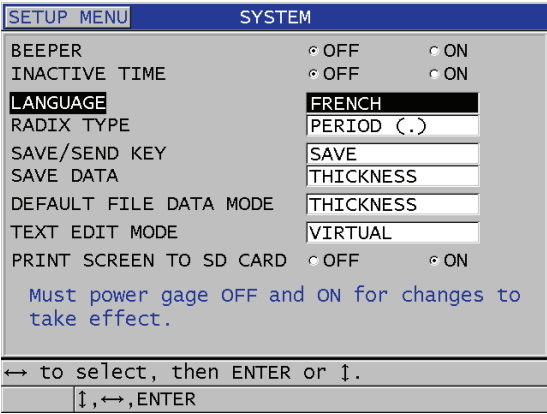

Figure 4-1 Selecting the user interface language
3. In the **SYSTEM** screen (see Figure 4-1 on page 44):